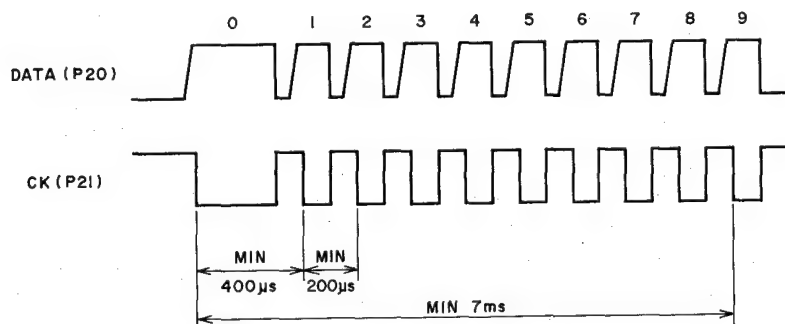

Fig. 5-3
- The minimum time from the 0 Bit CK to 1 Bit CK is 400 μsec., and after that, the minimum time is 200 μsec. (refer to Fig. 5-3)